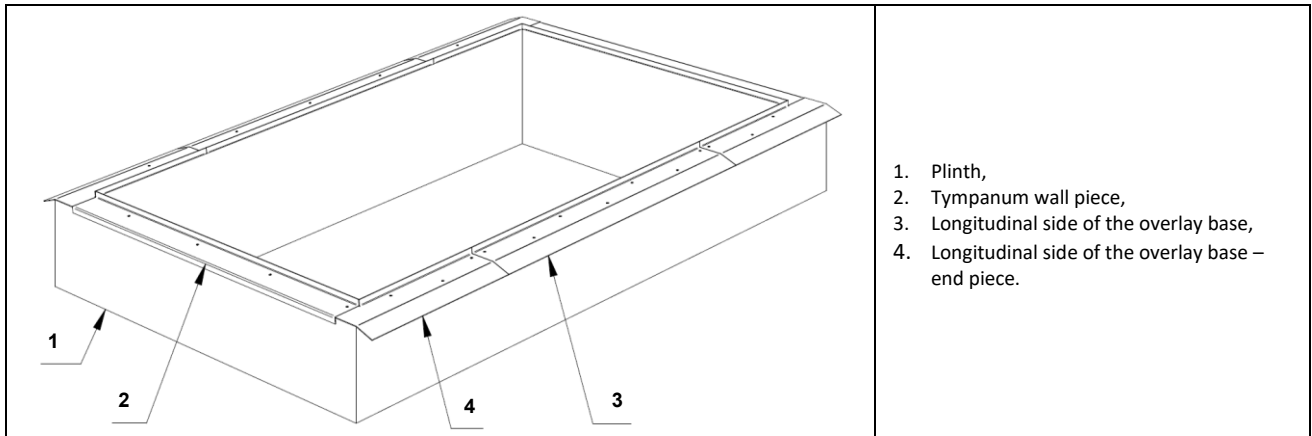

Figure 9 Arrangement of the overlay base on the on-site roof plinth
2. Lay out the overlay base components on the plinth sides according to (Figure 9 Arrangement of the overlay base on the on-site roof plinth). Apply PES 40x3 or PES 20x5 tape on the curb.